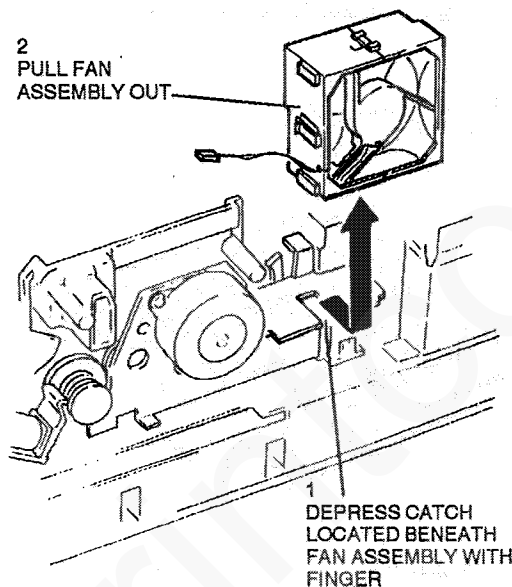

Figure 1. Fan assembly removal
3. (Figure 1.) Remove the fan assembly.